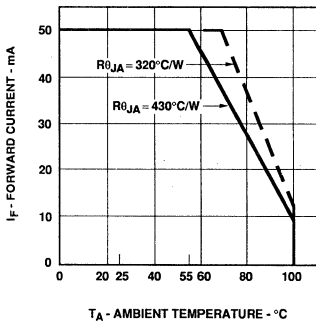

Figure 5. Maximum Forward DC Current vs. Ambient Temperature. Derating Based on $T_{jMAX} = 110^{\circ}\text{C}$.
3. Derate linearly as shown in Figure 5.